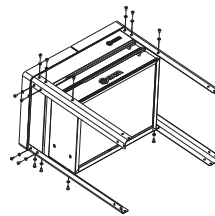

Fig. 1
1. Open the packaging of the tool cart and remove the main body and components of the tool cart. Place the tool owner's body on a clean cushion to prevent damage to the surface of the tool car. Install the four pillars of the tool cart one by one onto the main body of the tool cart using pillar bolts (do not install pillar bolts at the handle) (Fig. 1)